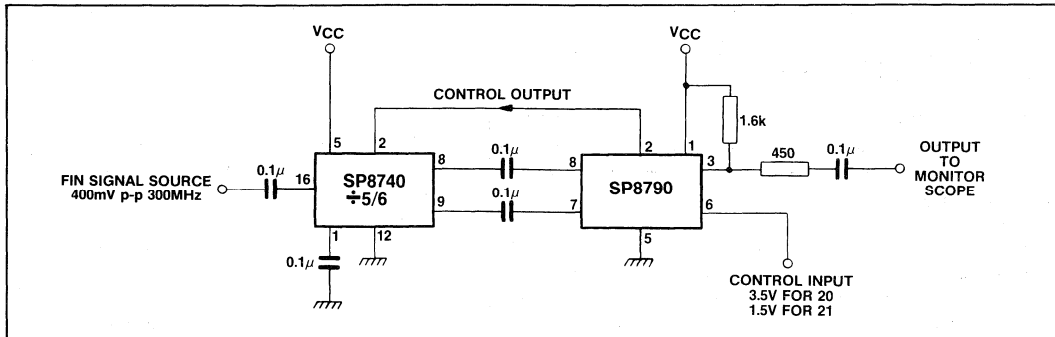

Fig. 4 Test circuit
2. The test configuration for dynamic testing is shown in Fig.4.
1. The device will normally be driven by capacitively coupling the inputs to outputs of a 2-modulus divider. See Figs. 4 and 5. The maximum frequency of the device when used as a controller is limited by the internal delays and will not operate above 60MHz. When used as a prescaler the device will operate in excess of 80MHz, the maximum frequency being limited by saturation of the counter output stage.